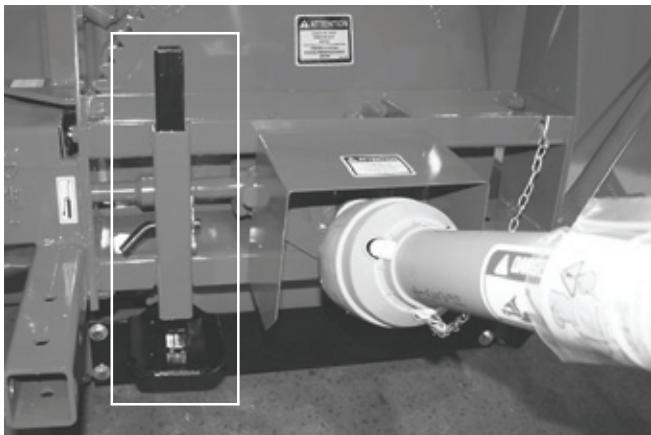

Figure 37
- 6) Following the installation of the Snowblower on the tractor, **do not forget** to lift the storage support (Fig. 37).